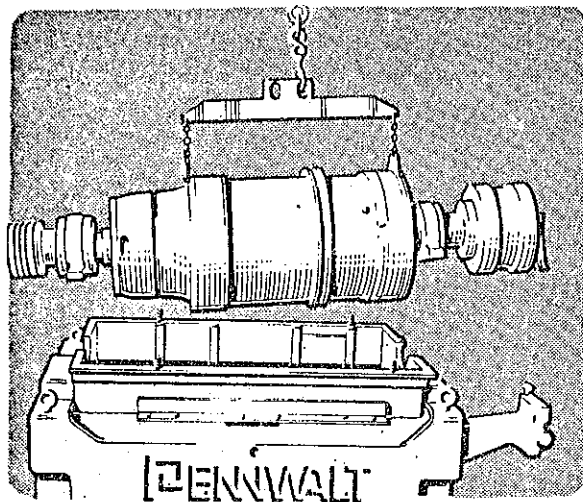

Figure 7. Lifting Bowl
- (h) Attach the bowl lifter to the bowl by bolting the chain plates tightly to the front hub and bowl extension joint with the hardened screws supplied as in Figure 7. Make sure these screws are tight.
- (i) Lift out the bowl assembly. Figure 7 shows this procedure with the gear box attached.